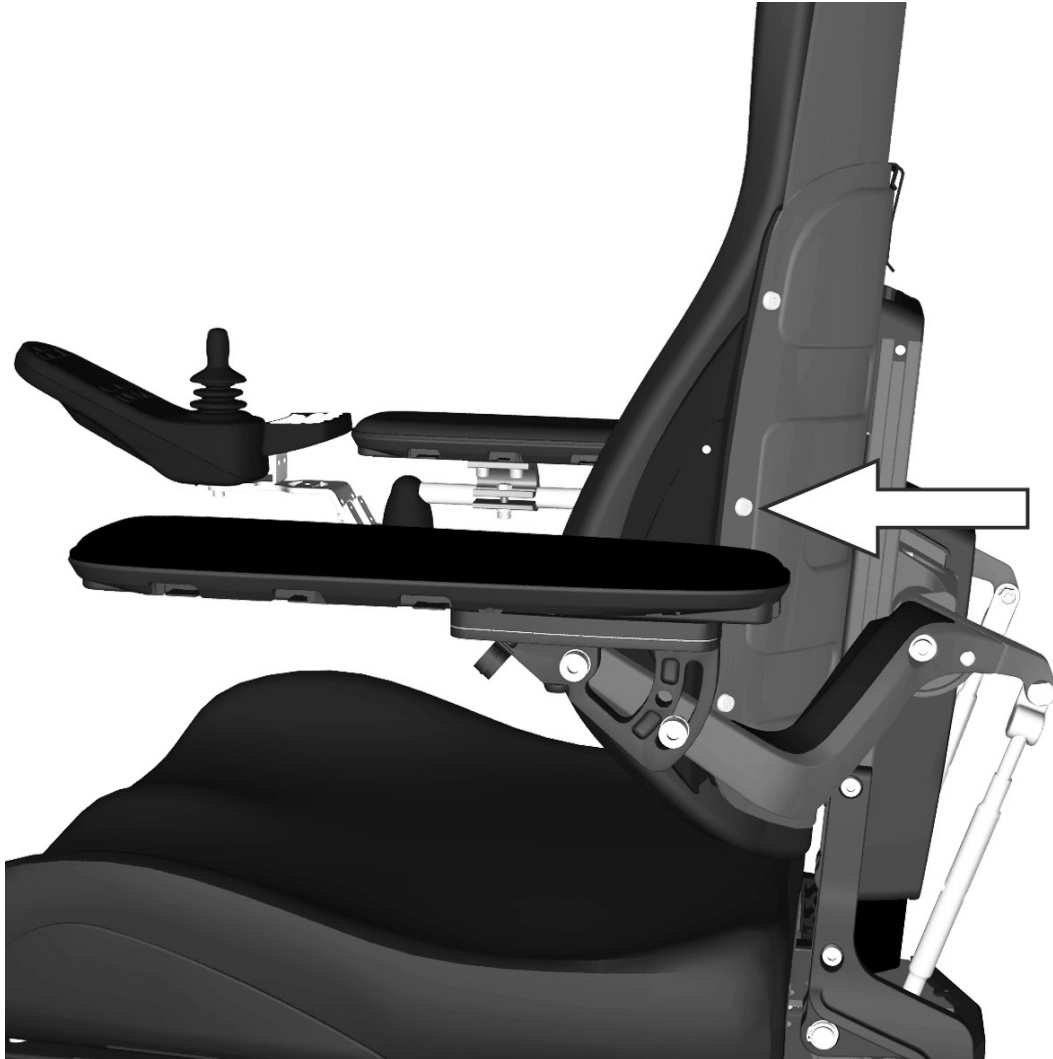

Figure 262. The trunk support height is fixed using one screw.
1. Loosen the screw for trunk support height adjustment approximately 2 turns. See fig. 262.